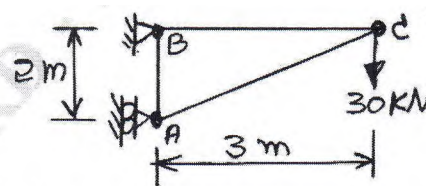

Fig.Q6(b)
- c. Determine the deflection at point C for the beam loaded as shown in Fig.Q6(c) by unit load method.